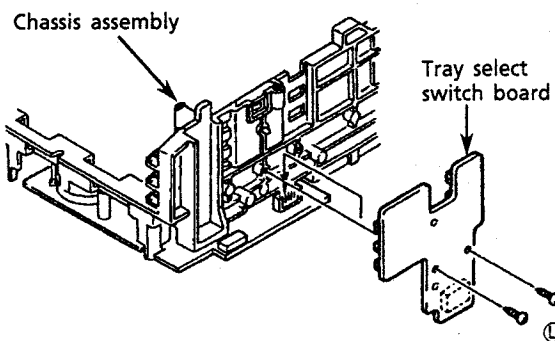

Fig. 32
5. Remove 2 screws ③ securing the tray select switch board. (See Fig. 32.)